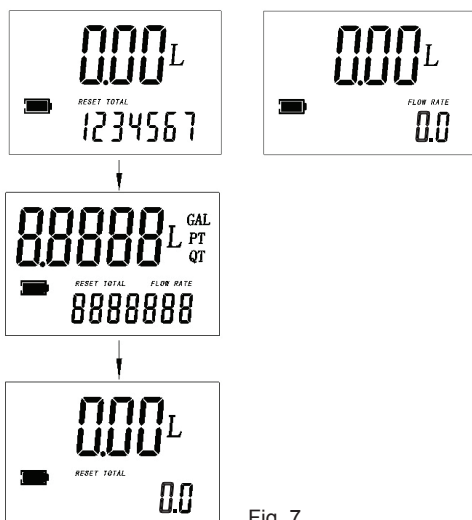

Fig. 7
- **Reset The Resettable Total (See Fig. 7)**